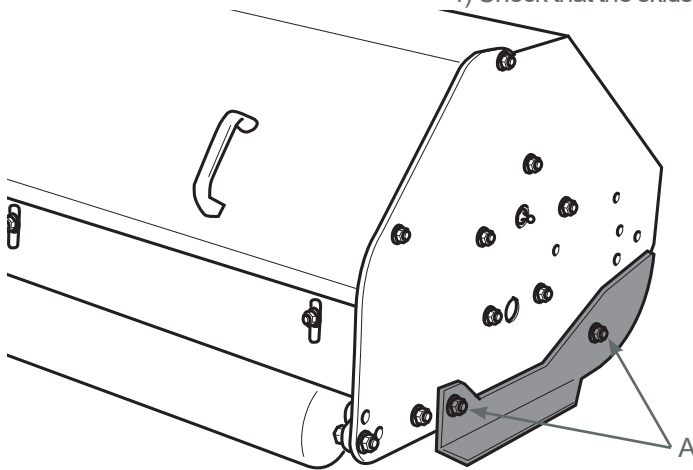

Fig. 27
Thanks to the presence of a particular anchoring system and the installation of a specific hinge (A), the ML shredder can easily continue its path even in the presence of obstacles and protrusions on the ground and allows maintaining of its stability even in the event of uneven ground (Fig. 27).
- 1) Remove the fixing screws "A" of the skids (Fig. 27).